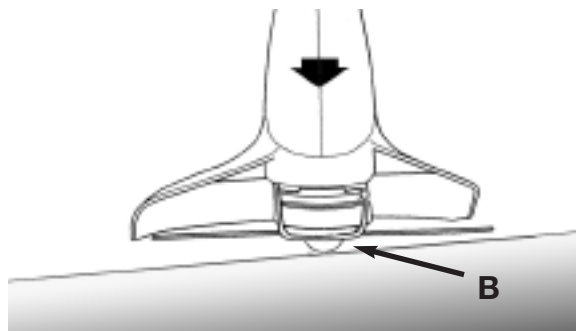

Fig. 10
**CAUTION:** A short or worn line cuts less efficiently so, to improve its operation on subsequent occasions, bump the stringhead lightly on the ground while the trimmer is running.(Fig 10)